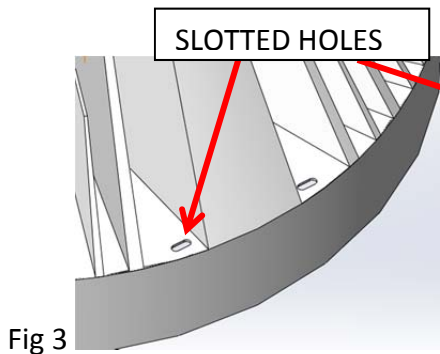
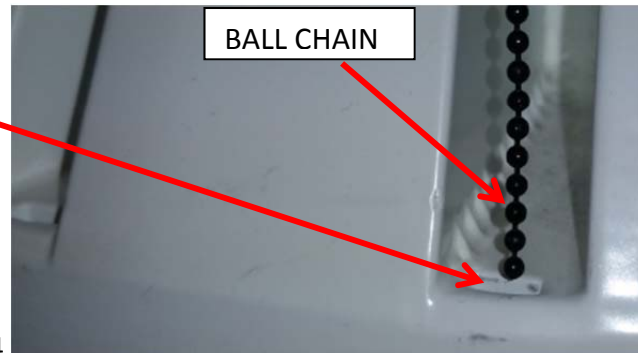

Fig 3
Fig 4
1. Slip one of the Ball Chains through one of the slotted holes on the HBL Luminaire, just above the light emitting area. See Fig 3 and Fig 4.